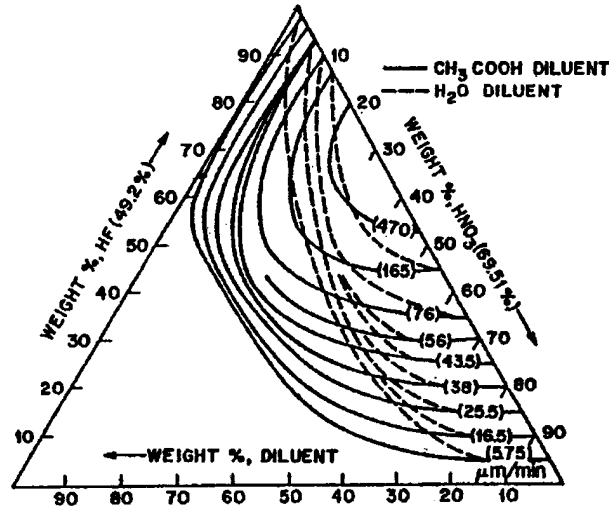

Figure 1 : Isoetch Curves for Silicon
1. Figure 1 shows the isoetch curve for silicon using the HF:HNO3:diluent system. If HF:HNO3:H2O = 50:30:20, determine the etch rate of silicon.